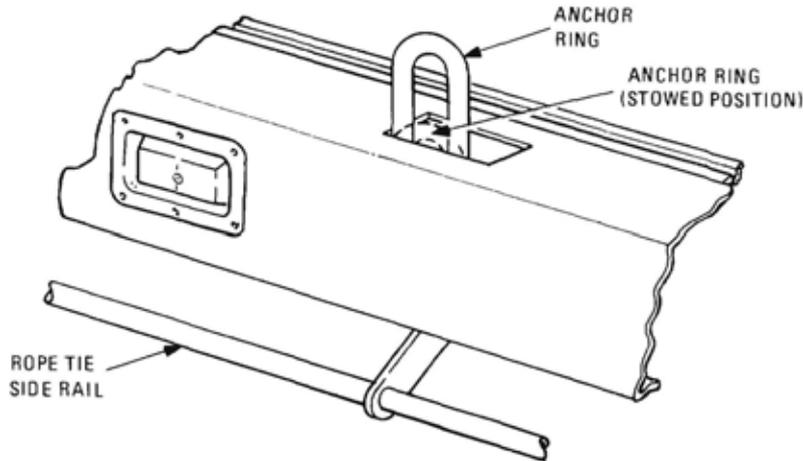

Figure 152 Anchor Ring and Rope Tie Side Rail
**251.** The deck of the cargo tray is constructed from extruded aluminium. The centre panel of the deck is held in position by two retaining bars, which are bolted to the crossmembers. The remaining panels are bolted directly to the crossmembers. Anchor rings and rope tie side rails (Figure 152) are fitted to the crossmembers for securing cargo. The anchor rings are used when cargo needs to be chained down and the rope tie side rails are used when the cargo can be secured with rope. The anchor rings when not in use, fall into a recess with the top of the ring sitting slightly above the deck surface leaving an unobstructed load area.